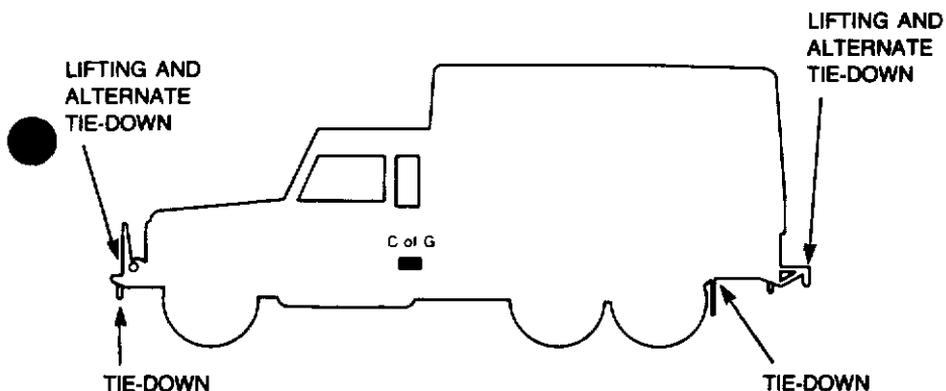

Figure 1-3 Slings and tie-down points
35. Slings and tie-down points are illustrated in Fig. 1-3.